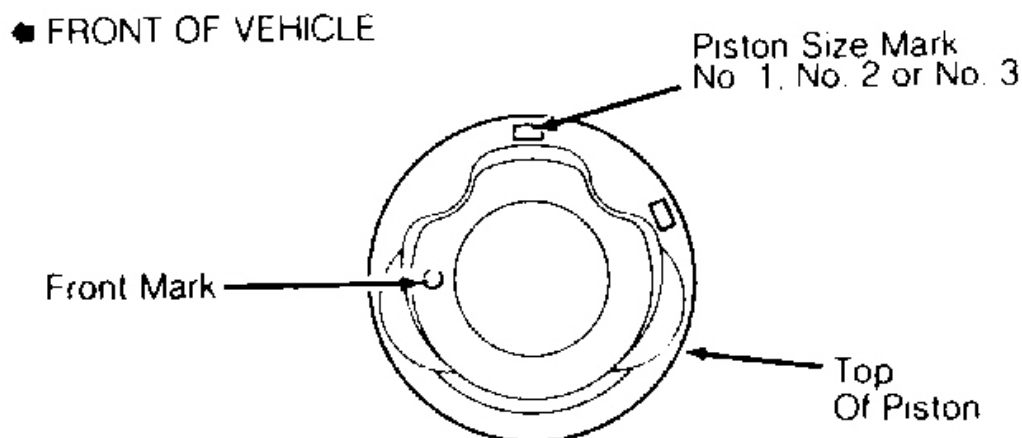
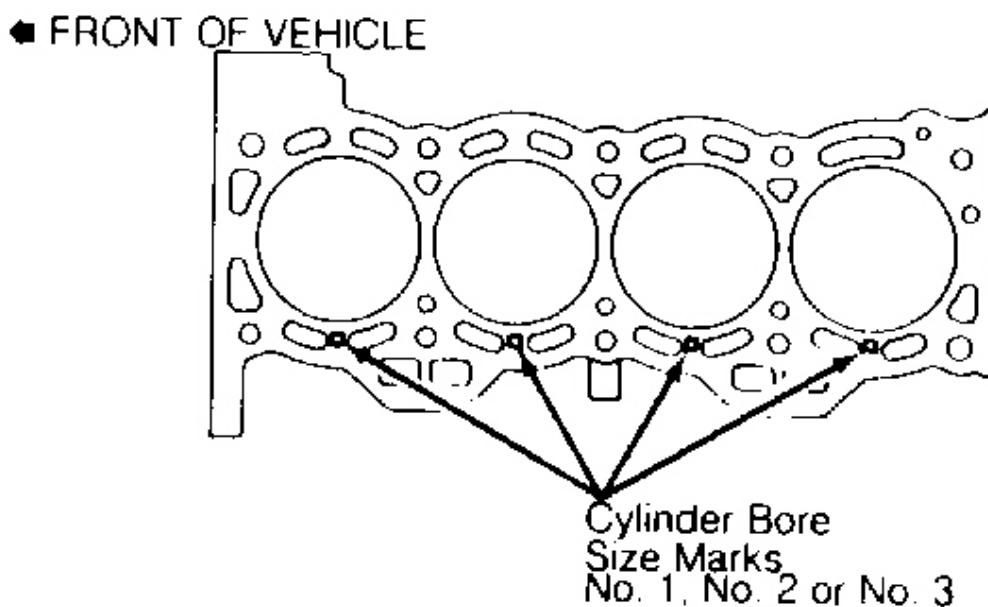

Fig. 14: Identifying Piston Marks
Fig. 16: Identifying Cylinder Bore Size Marks
3. Using piston ring compressor, push correctly numbered piston and connecting rod assembly into each cylinder with front mark of piston facing forward. See **Fig. 14**.
NOTE: There are 3 different standard piston sizes and cylinder bore diameters being used. Pistons and cylinder bores are marked No. 1, No. 2 or No. 3. Mark is stamped on top of piston and cylinder block. See Fig. 14 and Fig. 16 .